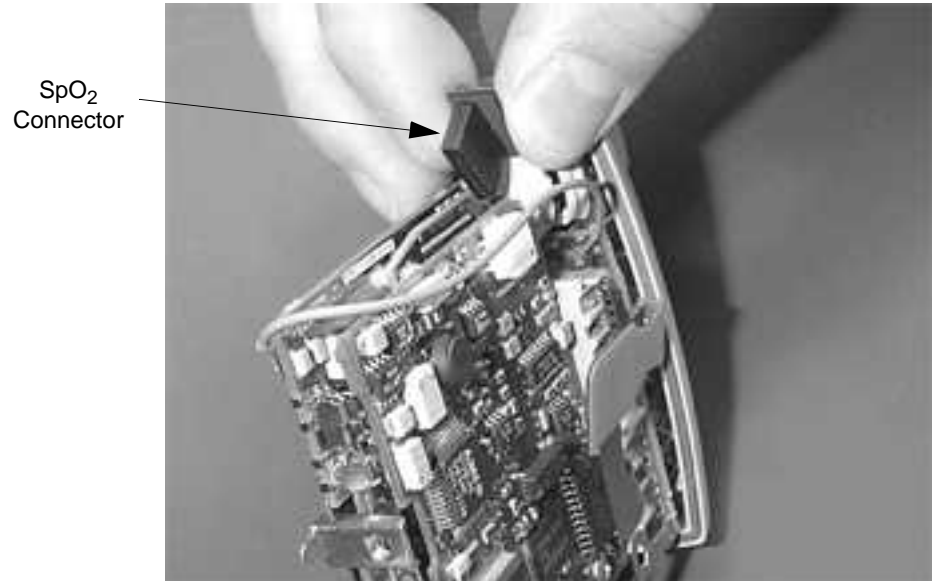

Figure 5-9 Disconnect the SpO₂ connector cable from the SpO₂
Step 3. Disconnect the SpO₂ connector cable from the side of the SpO₂ Board. See Figure 5-9. (For ECG only transmitters, skip this step.)